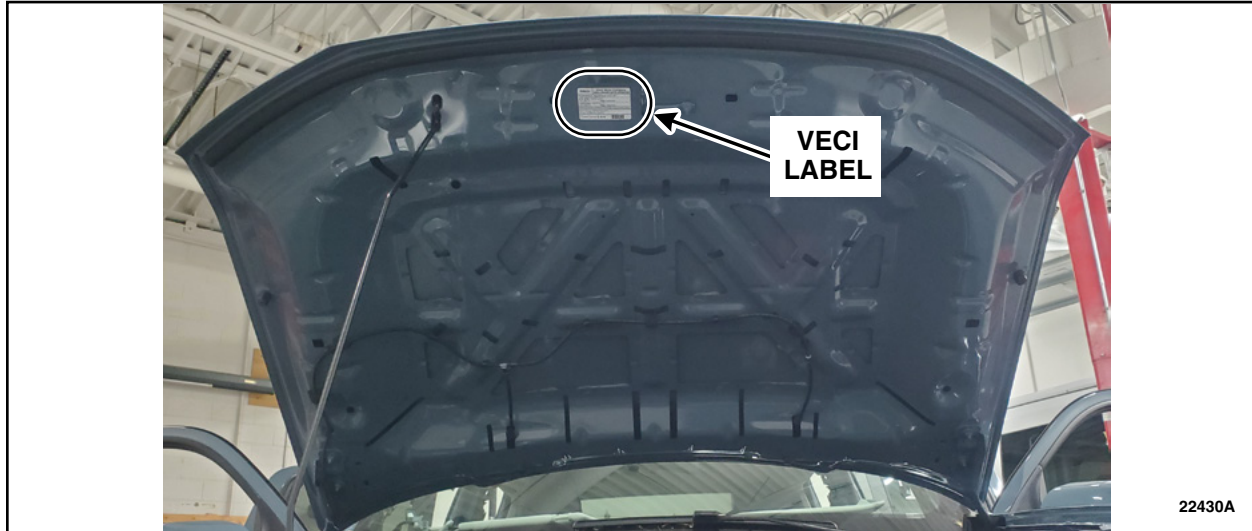

FIGURE 3
6. Locate the existing VECI label on the inside of the hood. See Figure 3.